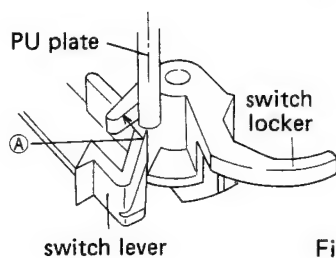
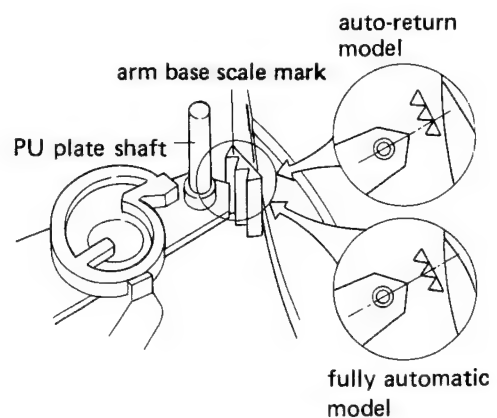

Fig. 1-8
Fig. 1-9 Adjustment of PU plate attachment location
In order to turn the power OFF, the PU plate shaft touches surface ① of the switch locker pushing it over so it locks with the switch lever turning the micro-switch OFF (fig. 1-8). If the amount of push on the switch locker is insufficient, it can not lock with the switch lever. With the tonearm locked in the arm rest, as shown in figure 1-9, attach the PU plate precisely midway between the first and second points from the arm base scale mark counting away from you (only for auto-return models; for fully automatic models, align with the center point).